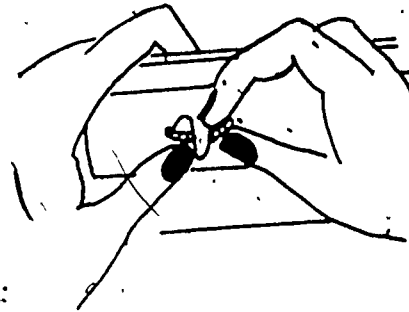

Figure 64.
2. Thread behind carriers under the down-facing hook (see Figure 64).